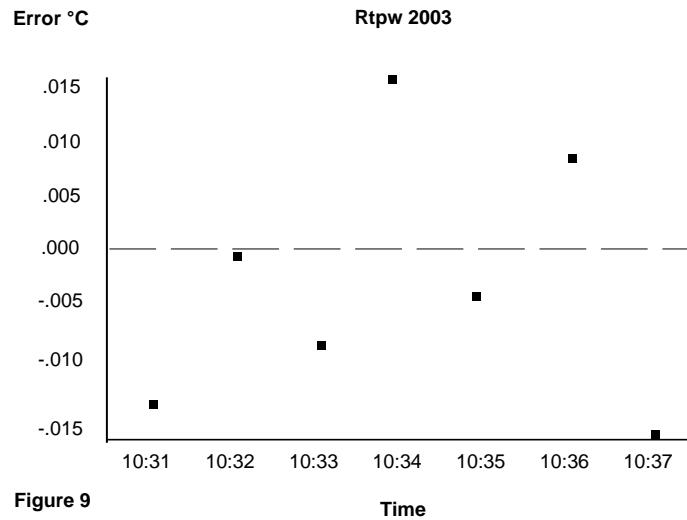

Figure 9
- 5.8 Figure 9 shows erratic R_{tpw} values. This problem is usually a result of coils that are touching, a broken wire, grain growth or poor cable connection. Generally if it is a problem with the SPRT sensor, lead wires or cable, a slight tap on the handle will generally cause the reading to jump.